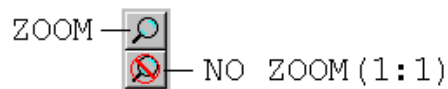

Figure 55: ZOOM TOOLBAR
A first click on the *Zoom* button (Figure 55) or on *Zoom* on the *Tools* menu (Figure 51) changes the cursor in  and allows you to zoom in the section view by simple click on it.
A second click on the *Zoom* button (Figure 55) or on *Zoom* on the *Tools* menu (Figure 51) changes back the cursor in  and allows you to work on your zoomed section view.
- Click on the *No Zoom (1:1)* button (Figure 55) to bring back the view to the initial size.